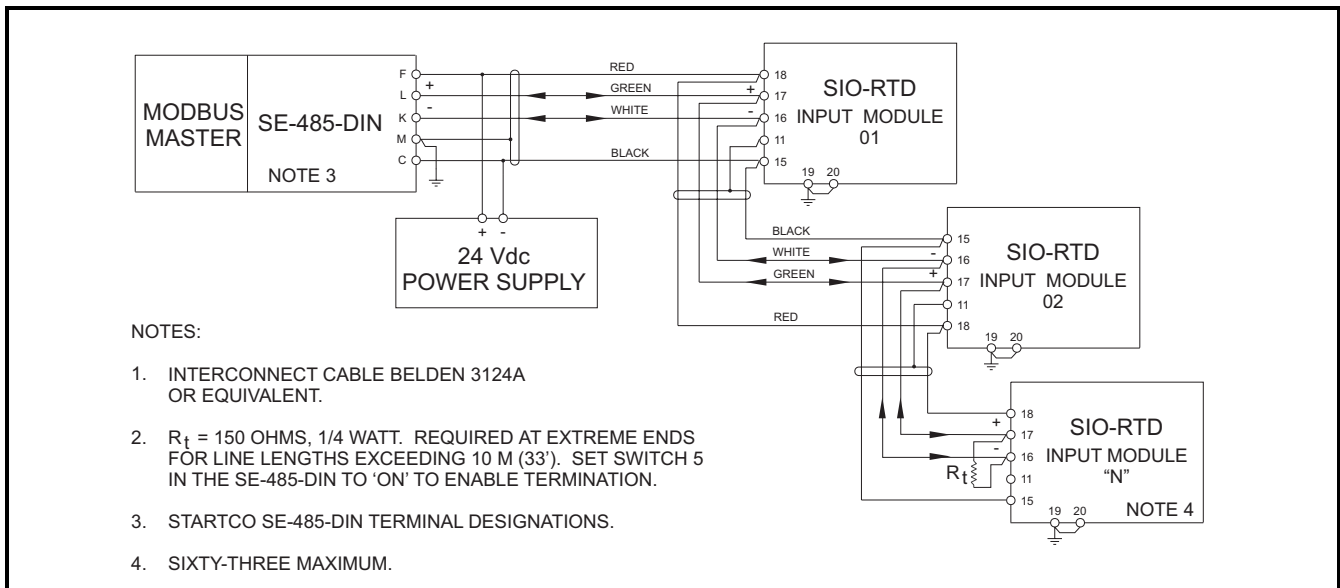

FIGURE 2. Network Connection Diagram.
Connect up to sixty-three SIO-RTD modules to a Modbus system or a personal computer (PC) using shielded cable (Belden 3124A or equivalent) as shown in Fig. 2. The 24 Vdc supply for the SIO-RTD modules must be supplied by the user. See Technical Specifications Section 6 to determine the ratings of the required power supply. If the SIO-RTD's are connected to a PC, a TIA-485-to-232 converter is required. A Startco SE-485-DIN converter can be used. Overall communications-line length must not exceed 1.2 km (4,000').